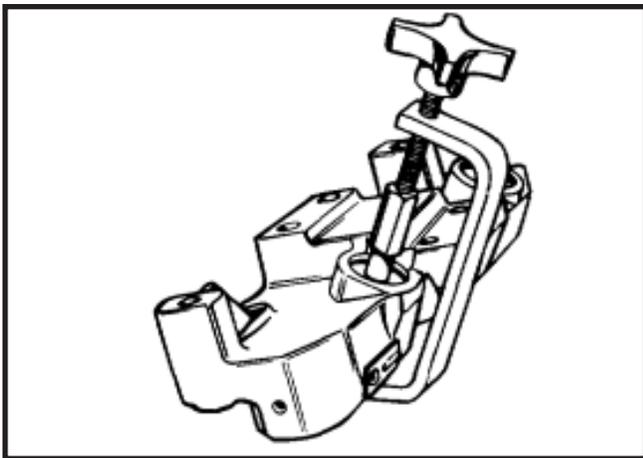

Fig. 5
2. Place the hole in the Jacobs slave piston tool (P/N 018238) over the slave piston adjusting screw (See Fig. 5).